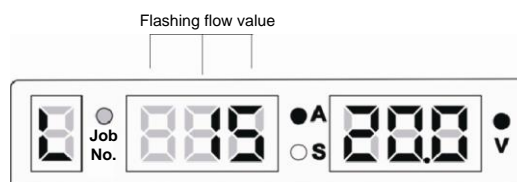

Figure 3-33 UI for locking the current adjustment range
- On the UI for locking the current adjustment range, the middle screen flashes. See Figure 3-33. Use the knob on the control panel of the welder to set the current adjustment range and press the **SAVE**  button. The UI for locking the voltage adjustment range is displayed. The default range is  $\pm 15$  A.